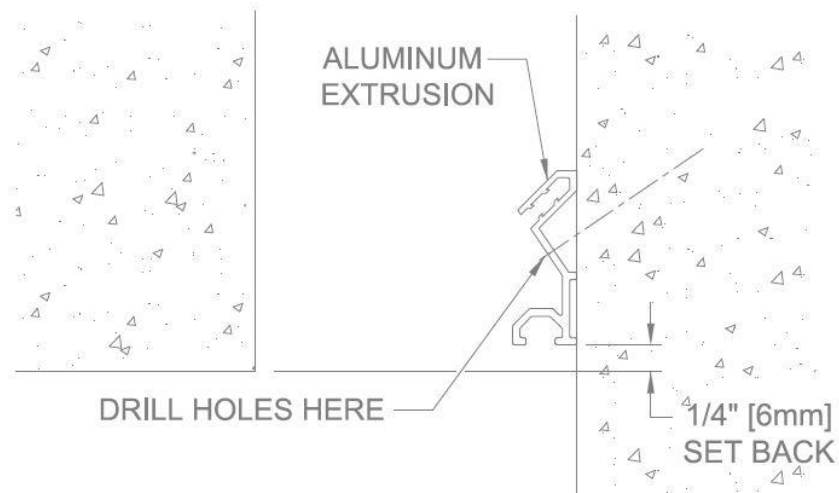

FIGURE 1
1. Position one of the frames onto the wall of the expansion joint and mark hole locations at 18” OC. (Reference shop drawings for more details) Drill $\text{Ø}3/16$ ” holes into the extrusions at the marked locations. When attaching to a concrete wall, drill a hole into the concrete at these locations with a $\text{Ø}5/32$ ” masonry bit. **See Figure 1**